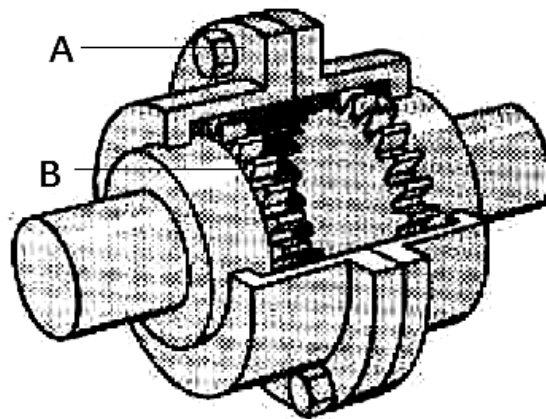

FIGURE 1
1.3 1.3.1. Label the parts indicated in FIGURE 1 by writing only the answer next to the letter (A–B) in the ANSWER BOOK.